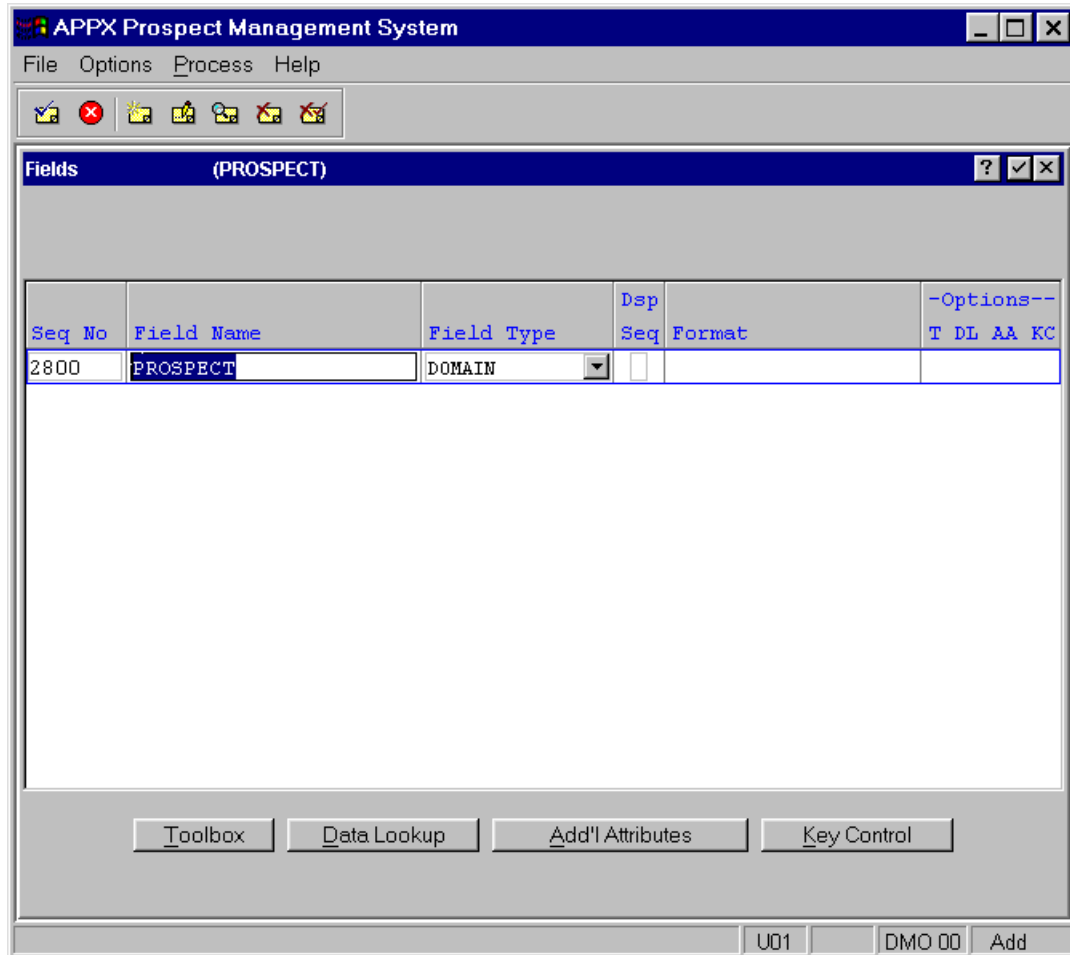

Figure E2.2 – Adding a New Field to a File
- APPX is now ready for you to enter the name of the first new field. Note that the file name has automatically been entered for you as a prefix for the Field Name (*Figure E2.2*). The inclusion of the file name as a prefix in the field name is the recommended field naming convention in APPX. Adopting this programming standard makes it simple to identify the file to which a field belongs and thus makes an application more easily maintainable. APPX automatically sets the file name into the field name to encourage the designer to adhere to its recommended programming standards with minimal effort. Of course, you can choose to override this default and enter any field name.